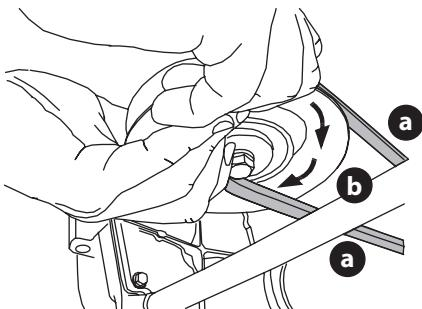

Figure 41
- d. While still holding the PTO belt (a) downward, continue turning the PTO pulley (b) until the PTO belt (a) is rolled off the PTO pulley (b) (Figure 41).
- While holding the PTO belt and PTO pulley together, rotate the PTO pulley to the left (Figure 41 on page 30). Continue holding and rotating the PTO pulley and PTO belt until the PTO belt is fully rolled into the PTO pulley.